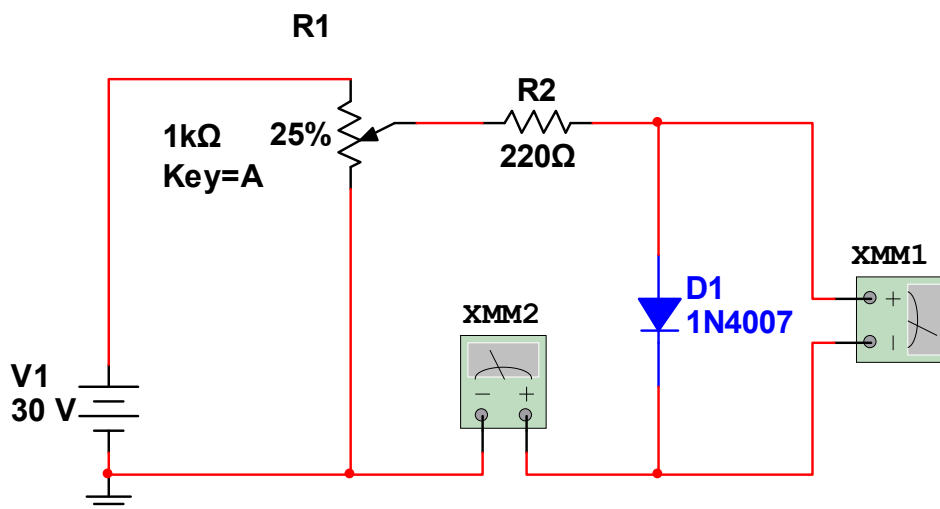

Figure 1.1: Forward Bias Circuit of PN Junction Diode
- ❖ For forward bias characteristic, make the connections as shown in the figure 1.1.